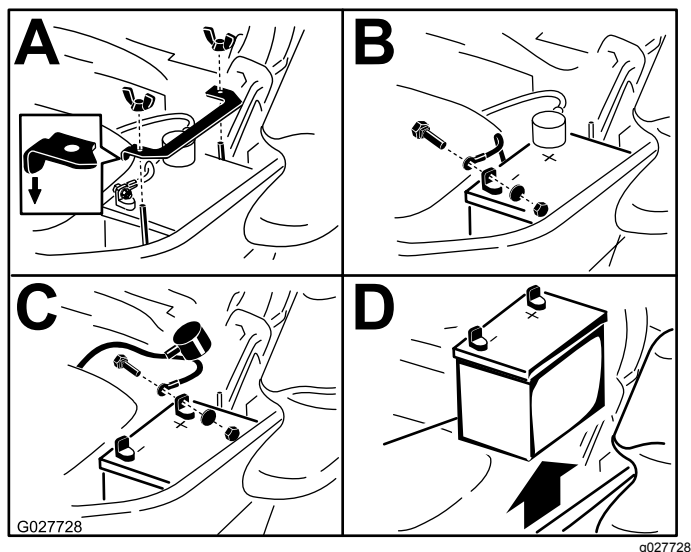

Figure 64
3. Remove the battery as shown in Figure 64.